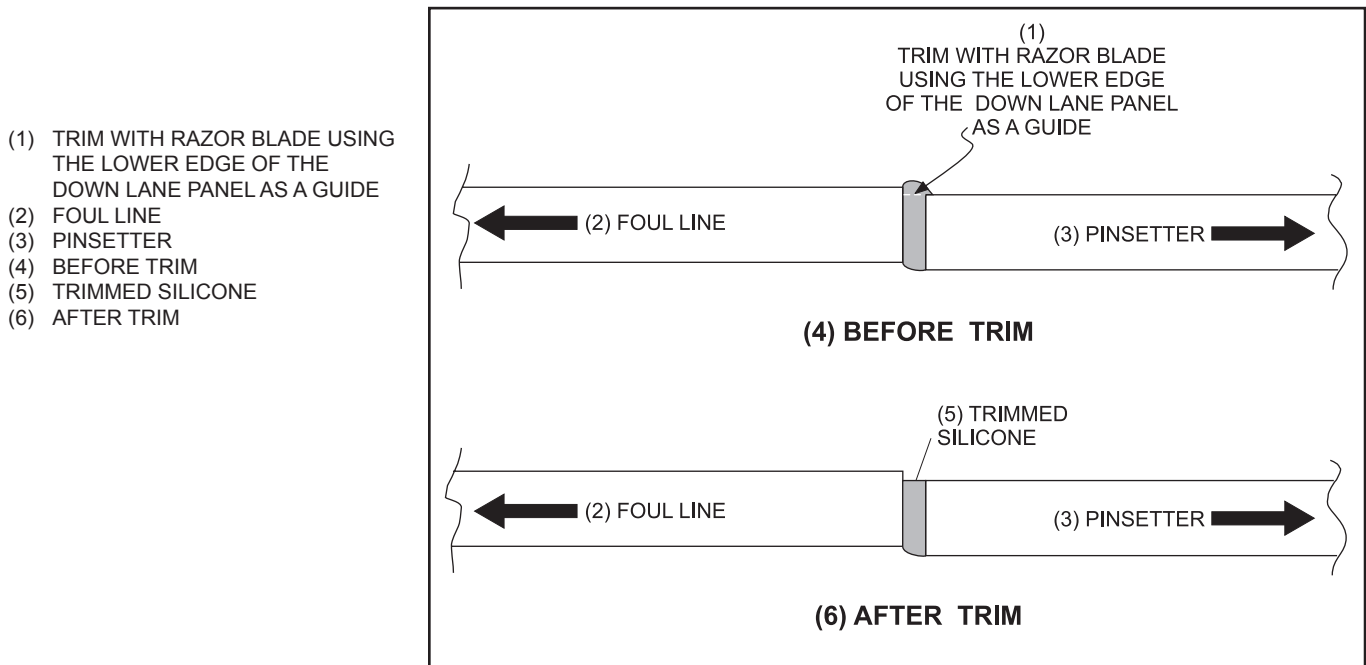

Figure 5.
6. Work the silicone down into the joint with a putty knife so the silicone is into the joint as shown in Figure 5, being careful to not allow any silicone sealer on the lane surface.
8. Before the silicone is fully set up and is still pliable, use a razor blade to trim the silicone so it is flush with the lower edge of the down lane panel surface. Refer to Figure 5.
i **IMPORTANT:** Refer to Figure 5 for correct razor blade trimming procedure. Use caution! Do not press blade into panel's edge. Gently trim the silicone only.